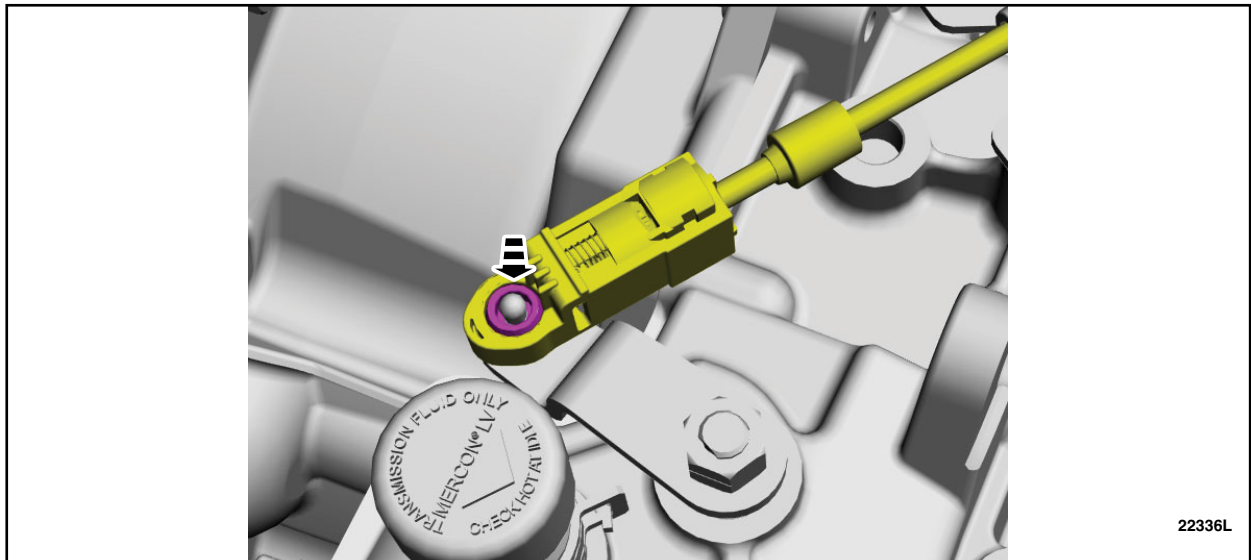

FIGURE 11
12. Connect the selector lever cable to the manual control lever. See Figure 11.